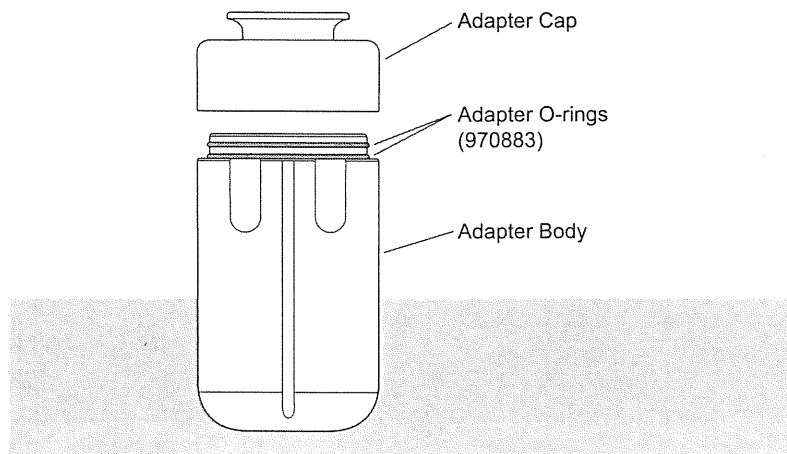

Figure 4. The 500-mL Adapter for the JLA-8.1000 and JLA-9.1000 Rotors
The patented² 500-mL adapter (363683, see Figure 4) enables the use of 500-mL, 250-mL, 50-mL, and 15-mL bottles and tubes, and Bio-Vials. Labware smaller than 500 mL must be placed in another adapter, or in more than one other adapter, before being placed in the 500-mL adapter. See Table 1 for a list of bottles, tubes, and adapters that can be used.
1. Prepare the 500-mL adapter by making sure that the two O-rings are in place as shown in Figure 4. *Do not lubricate the O-rings.*